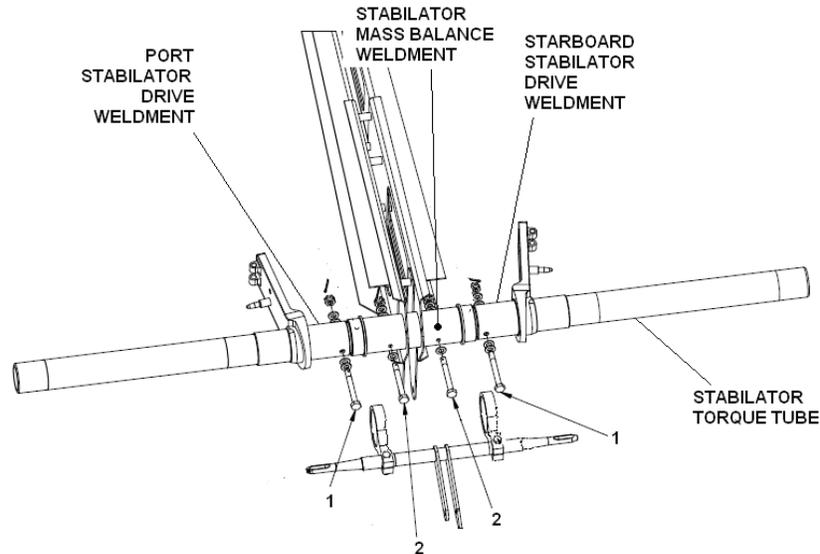

Figure 55-11 Stabilator Torque Tube
4. Refer to Figure 55-11. Remove cotter pins, nuts, washers, and bolt (1) from port and starboard stabilator drive weldments and torque tube. Note the positions of the washers and remove stabilator drive weldments.
5. Refer to Figure 55-11. Insert torque tube through stabilator mass balance weldment.
9. Refer to Figure 55-11. When temporary installation is satisfactory, install washers and nuts (2) on bolts to attach stabilator mass balance weldment to torque tube.